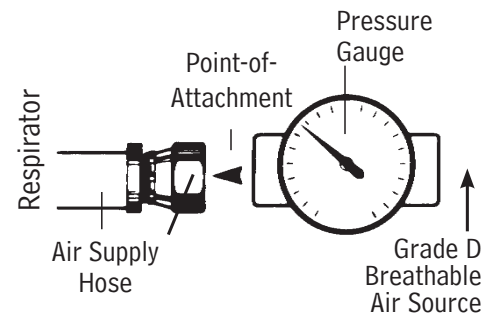

Figure 2
4. Adjust the air pressure at the point-of-attachment to within the approved pressure range (Figure 2).